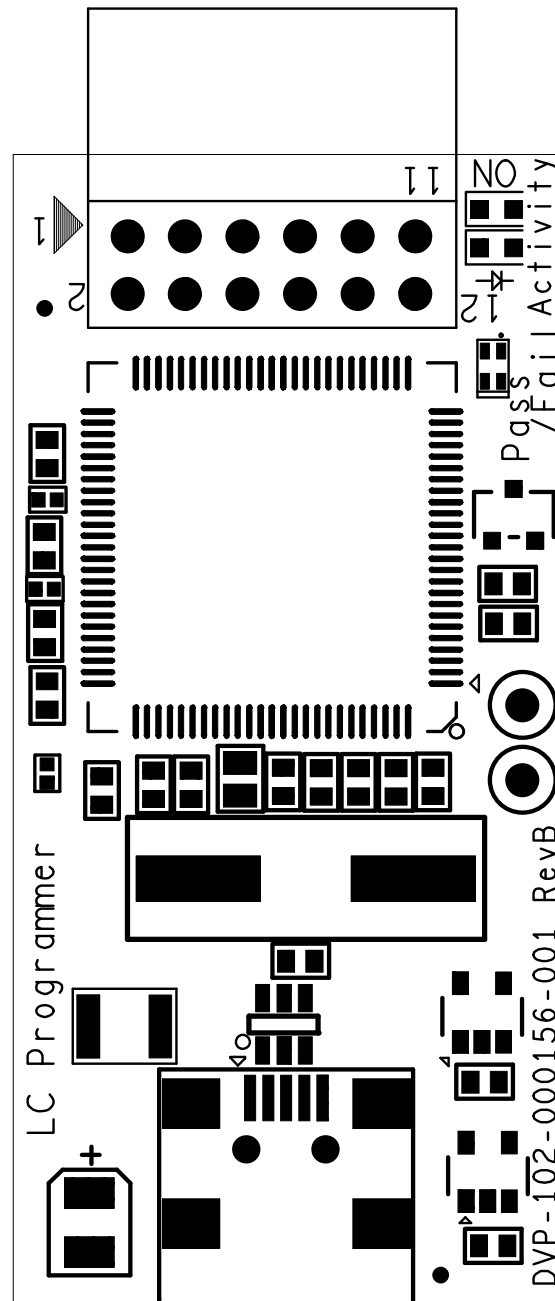

Figure 3-20 • Low-Cost Programming Stick (LCPS) Stackup (Top Silkscreen)
4. Bottom signal layer (Figure 3-20 on page 3-46)